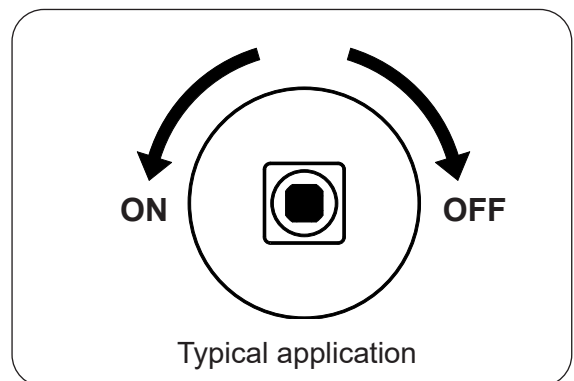

Fig. 12-2
4. **Once the flame is in position**, slowly turn the key valve counter-clockwise toward the **ON** position until it no longer rotates (see Fig. 12-2). Your burner should light.
To extinguish your gas burner, turn the key valve clockwise toward the **OFF** position until it no longer rotates (see Fig. 12-2). Be sure the key valve is turned fully off to avoid any gas leakage.